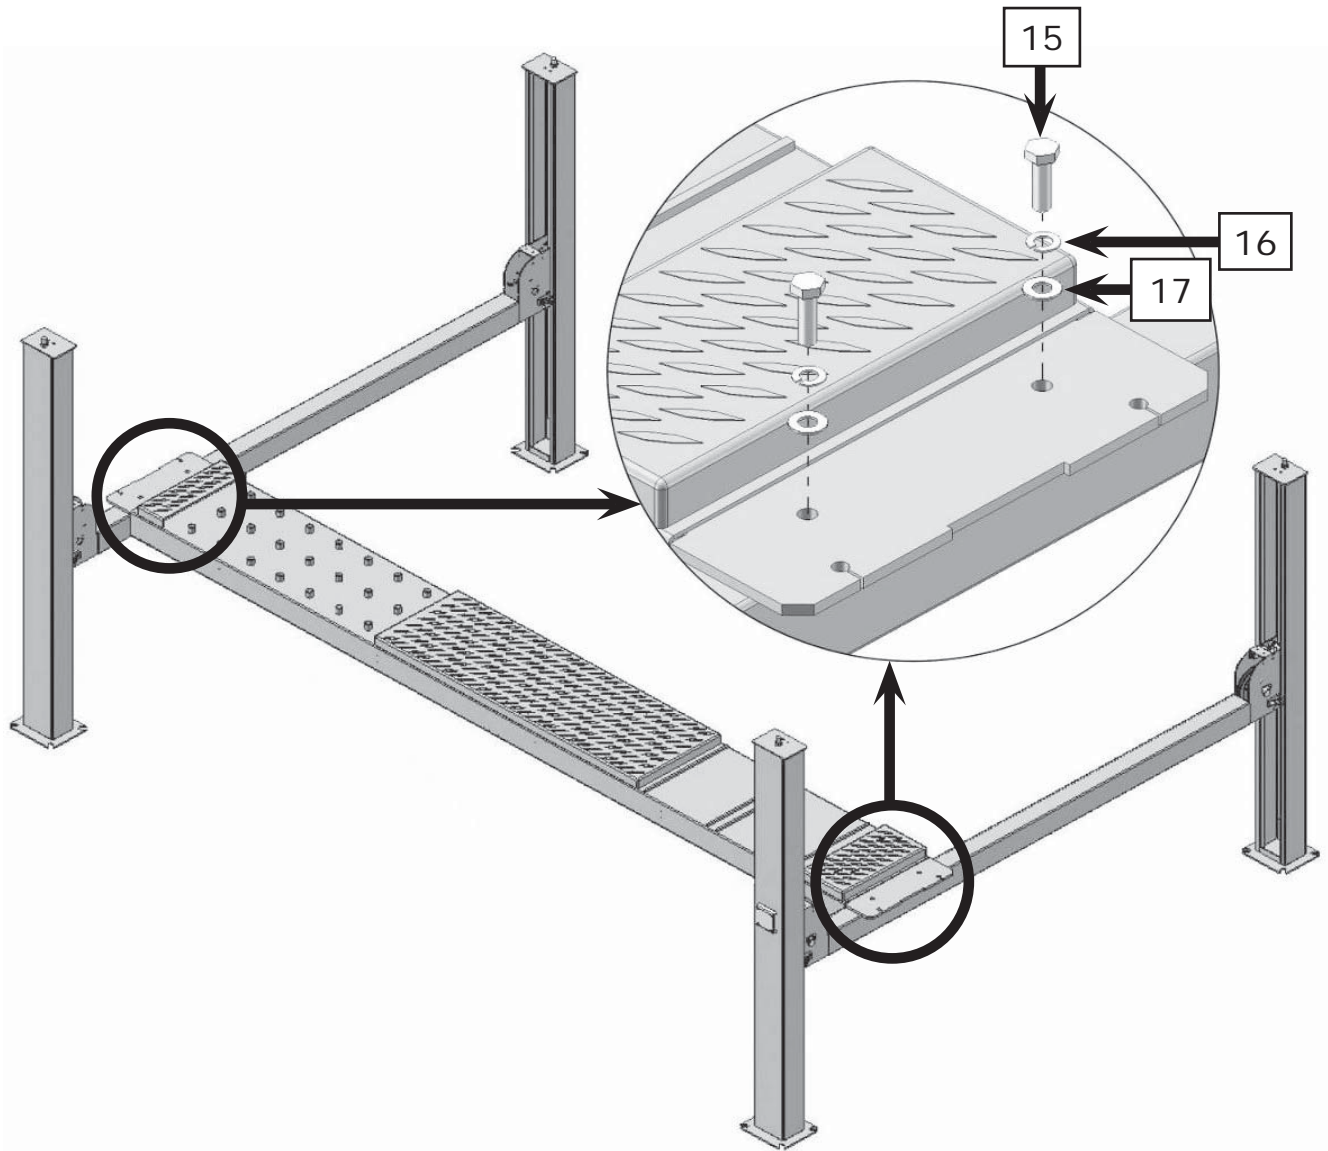

Fig. 19
2. Install the platform to Cross Beam with a forklift or other lifting device (**See Fig. 19**).